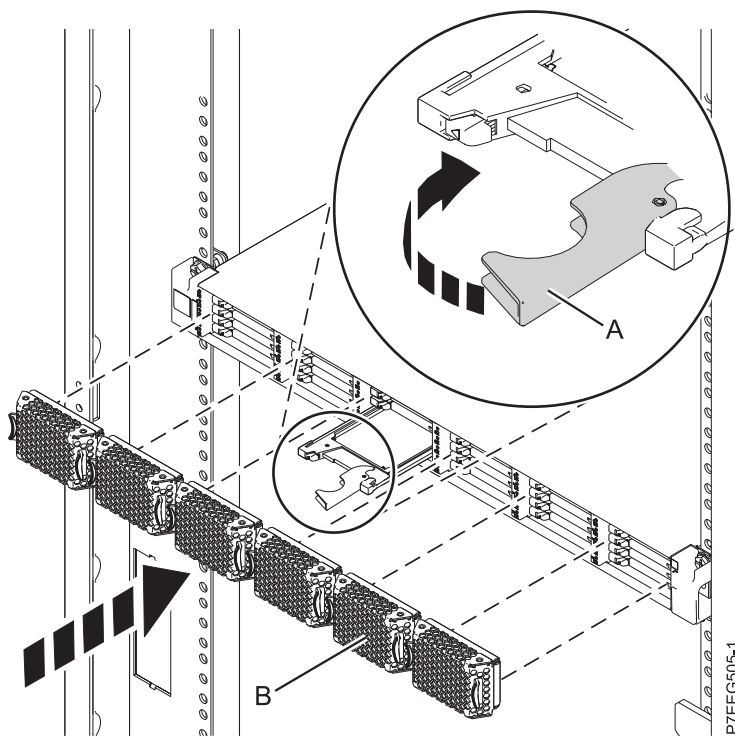

Figure 50. Replacing a solid-state drive in the EDR1 PCIe storage enclosure.
4. When the solid-state drive identify LED turns on solid, slide the solid-state drive all the way into the EDR1 PCIe storage enclosure until it is fully seated. Then rotate the handle (A) to the locked position. See Figure 50.
6. Install the bezel (B).